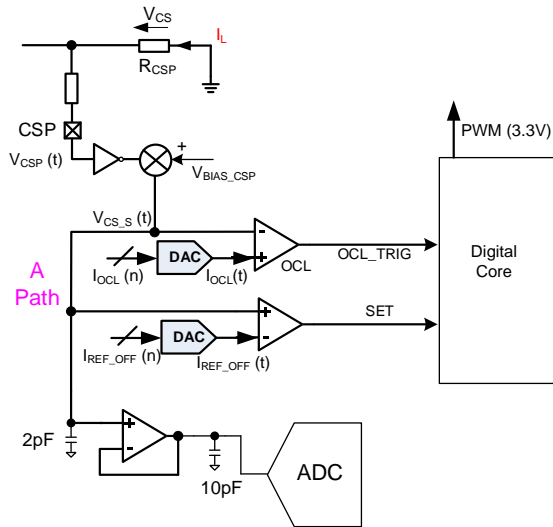
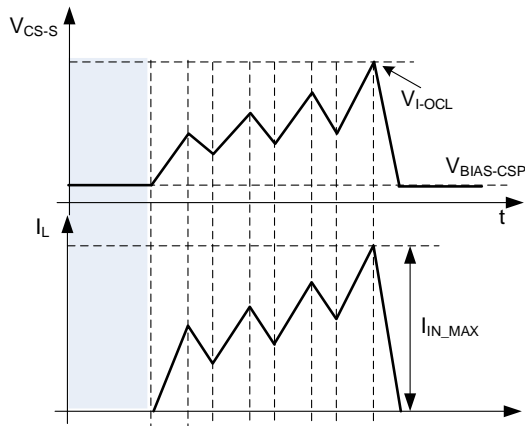

Figure 15: CSP Pin Current-Sense Circuit
Figure 16: V_{CS_S} Voltage Waveforms
The PFC inductor current is sensed by the CSP resistor (R_{CSP}), and produces a negative voltage (V_{CSP}). This value is internally converted into a positive voltage with a bias (V_{CS_S}) (see Figure 15 and Figure 16 on page 23). The ADC samples V_{CS_S} when the PFC gate turns off. V_{CS_S} can be calculated with Equation (2):
Figure 15 shows the current-sense circuit on the CSP pin.
Figure 16 shows the V_{CS_S} waveforms.